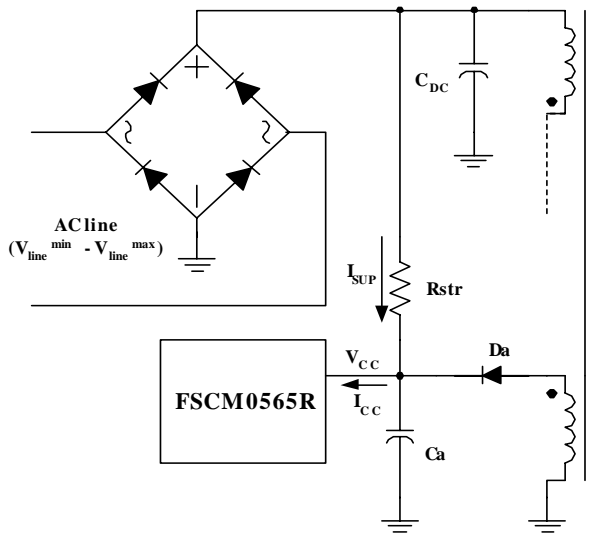
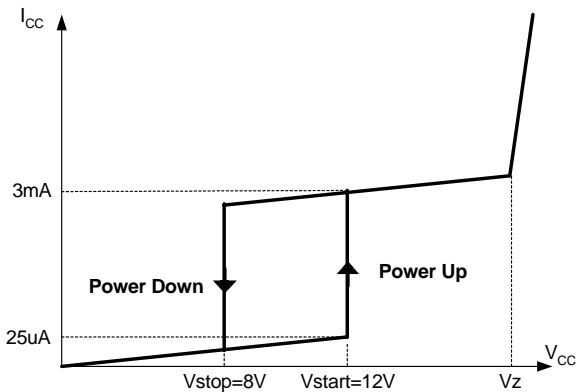

Figure 16. Startup Circuit
Figure 17. Relation Between Operating Supply Current and V_{cc} Voltage
1. Startup: Figure 16 shows the typical startup circuit and transformer auxiliary winding for the FSCM0565R application. Before the FSCM0565R begins switching, it consumes only startup current (typically 25uA) and the current supplied from the DC link supply current consumed by the FPS (I_{cc}), and charges the external capacitor (C_a) that is connected to the V_{cc} pin. When V_{cc} reaches start voltage of 12V (V_{START}), the FSCM0565R begins switching, and the current consumed by the FSCM0565R increases to 3mA. Then, the FSCM0565R continues its normal switching operation and the power required for this device is supplied from the transformer auxiliary winding, unless V_{cc} drops below the stop voltage of 8V (V_{STOP}). To guarantee the stable operation of the control IC, V_{cc} has under voltage lockout (UVLO) with 4V hysteresis. Figure 17 shows the relation between the current consumed by the FPS (I_{cc}) and the supply voltage (V_{cc})